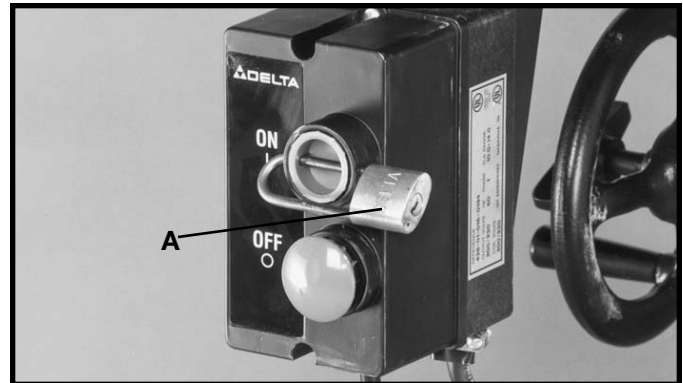

Fig. 120
IMPORTANT: When the machine is not in use, the switch should be locked in the "OFF" position using a padlock (A) Fig. 120, (Delta Cat. No. 50-325), with a 3/16" diameter shackle to prevent unauthorized use.